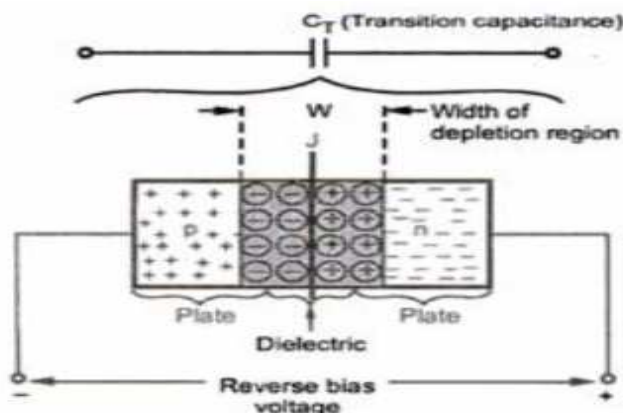

Fig. 5.21 Varactor diode
- It is denoted as C_T and is shown in figure 5.21.